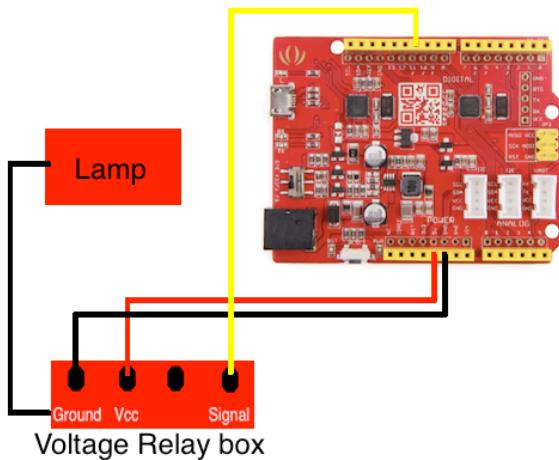

Figure 4: Voltage Relay and Arduino set up
1. Attach the lamp and the voltage relay to the Arduino. Connect the signal to pin 11, Ground to Ground and Vcc to 5V (see Figure 4).
1. Add on the voltage relay and the lamp to the Arduino with the LCD display shield and the temperature sensor (see Figure 4 for the voltage relay connection).